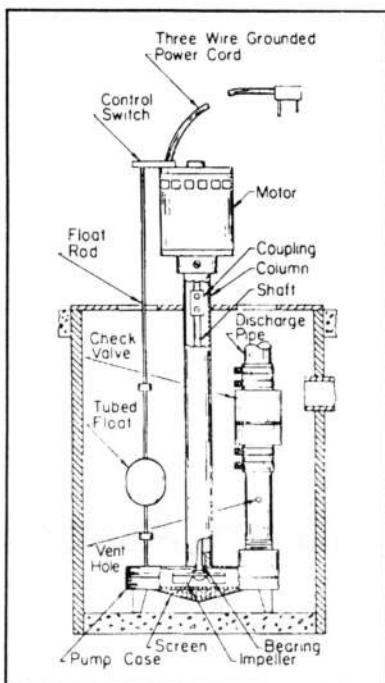

Figure 1
1. The **pedestal** (also referred to as column type or upright) sump pump is a unit furnished with an open motor supported by a column attached to the pump casing. When installed, the motor projects out of the sump and above the basement floor. See Figs. 1 & 2.